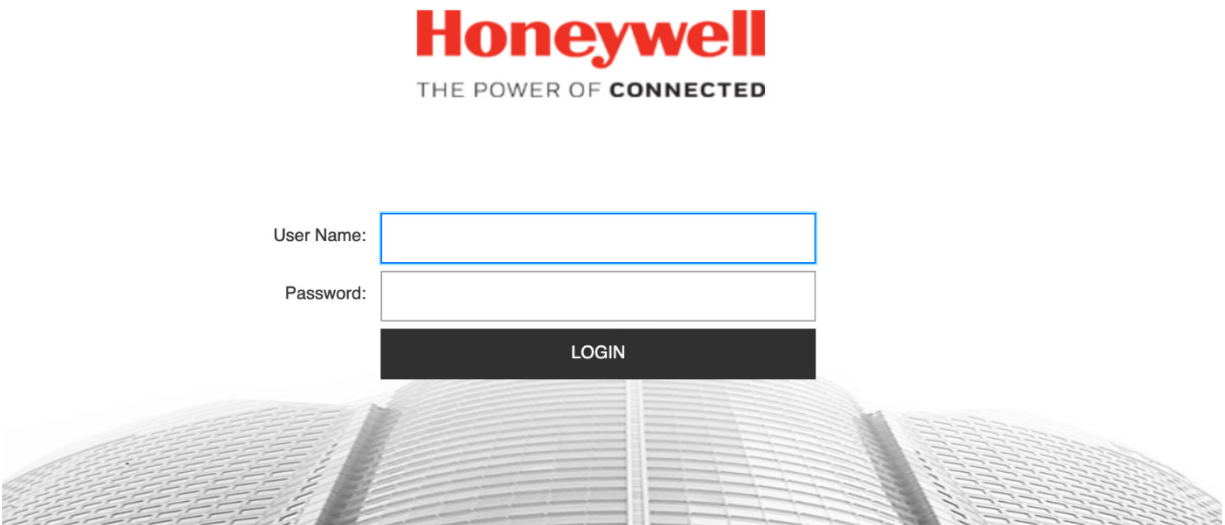

Fig. 4.6
Click on "More information," see Fig. 4.2 (if the Honeywell portal (Fig. 4.6) appears instead of this screen, skip the following steps and go directly to step 6).
4. You will be requested to log in again. See Fig. 4.6.